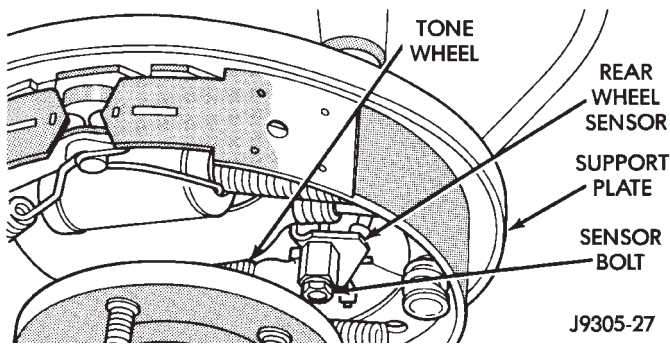

Fig. 9 Rear Wheel Sensor Mounting
(9) Unseat sensor grommet from brake support plate.
(10) Remove bolt attaching sensor to support plate bracket (Fig. 9).
(11) Remove sensor and wire through opening in support plate.